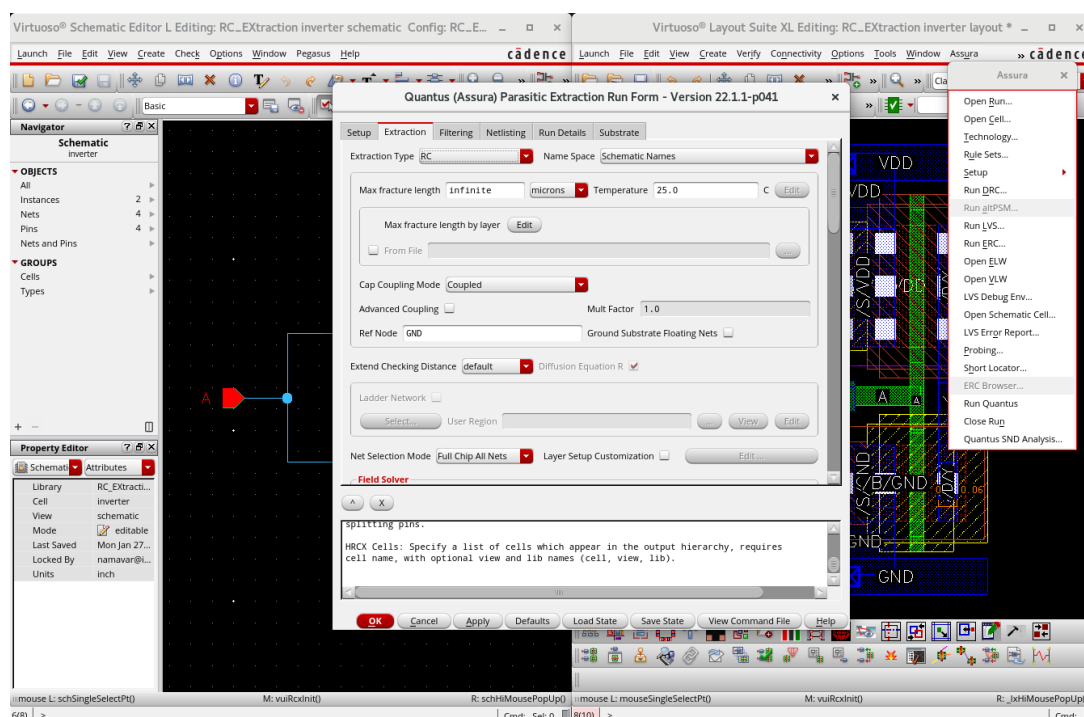

Figure 6: Quantus Extraction Tab Configuration for RC Parasitic Extraction. Set Extraction Type to RC and specify the Ref Node.
3. Navigate to the **Extraction Tab** and set the **Extraction Type** to **RC**. Use **Schematic Names** for the Name Space. Enter the name of the Ref Node corresponding to the ground net in your layout (e.g., if the ground net is named `VSS`, enter `VSS`). Refer to Figure 6.